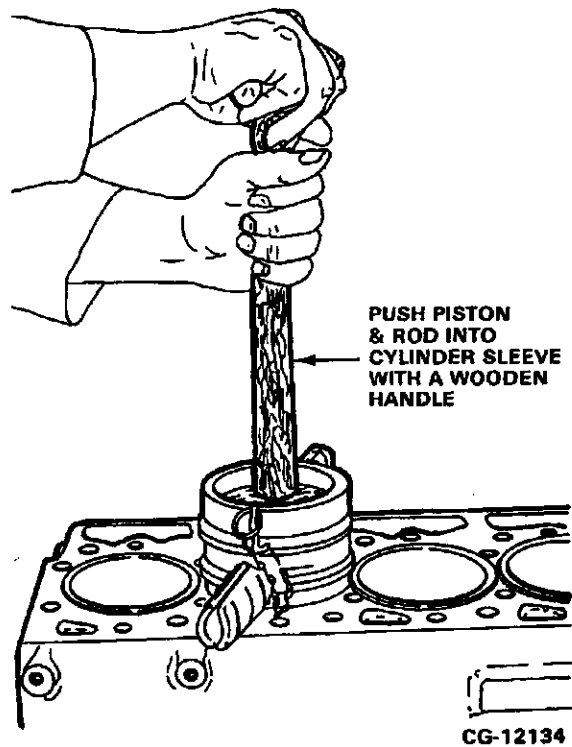

Figure 6.57. Insert Piston and Rod into Sleeve
6. Push the piston into the sleeve with a wooden handle. Refer to Figure 6.57.